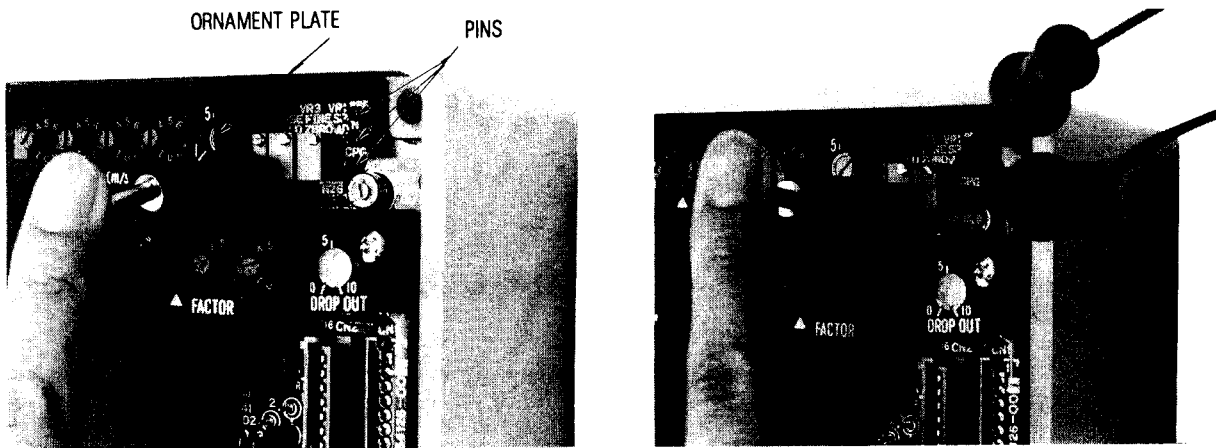

Figure 6-2. Location of the Pins
- (c) When the instrument is incorporated with the pulse output function alone (without 4 to 20mA DC output or display board), check that the voltage of the 0 to 1V CHECK pins on Figure 6-2 (CPG and ACOM pins) is 0.00V as measured with a digital voltmeter connected to these pins.
To gain access to the CHECK pins, loosen the screws at the top of the right-most position and raise the flexible ornament plate. The location of the pins is as shown in Figure 6-2. Of the three pins, use the green one "CPG" (+) and the black one "ACOM" (-).